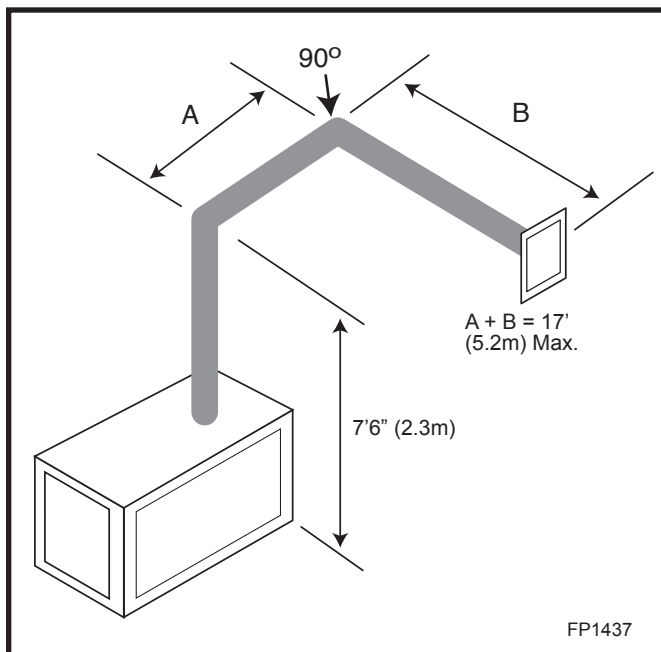

Fig. 22 Horizontal run reduction.
**NOTE:** The sum of Dim. A and Dim. B must not be greater than 17 ft. (5.2m). (Fig. 22)